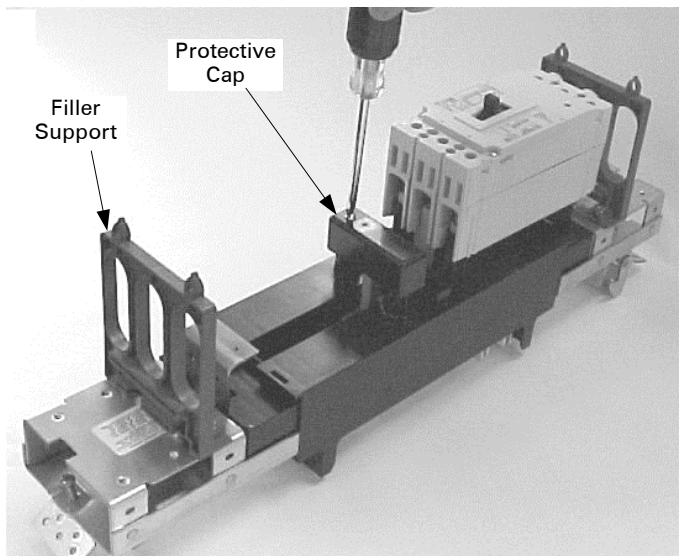
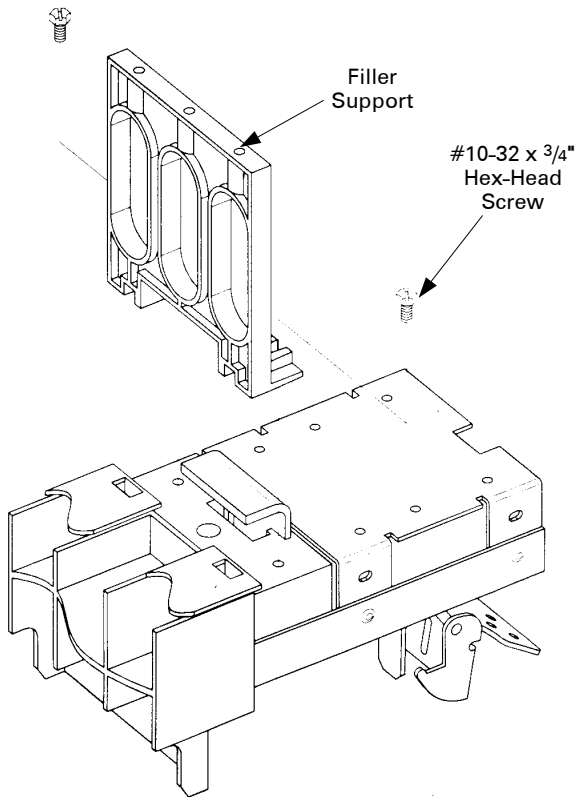

Figure 2. Removing the cap from the mounting posts of the breaker module.
Figure 3. Fastening the filler supports in position.
- 2. Prepare the breaker module.** If two breakers are to be mounted on the module, remove the protective cap from the mounting posts, as shown in Figure 2. Fasten the filler supports (supplied in the filler plate kit), as shown in Figure 3, with #10-32 x 3/4" hex-head screws tightened to 15–20 in-lb.